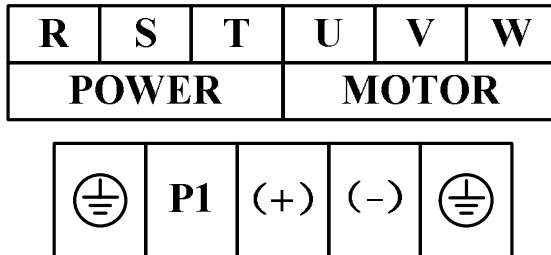

Fig. 4-2d
c) The Major Loop Terminal Block Distribution Diagram of 3 phase 18.5kW-110kW Frequency Converter (as shown in fig. 4-2d)
d) The Major Loop Terminal Block Distribution Diagram of 3 phase 132kW-315kW Frequency Converter (as shown in fig. 4-2d)